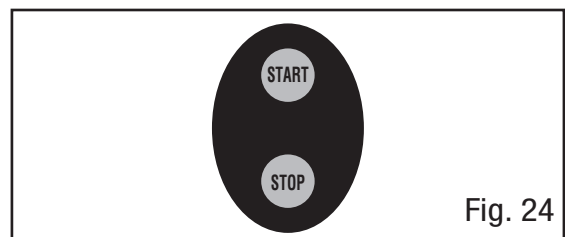

Fig. 24
- b. FOR REMOTE-START: Turn and hold the REMOTE START switch for 5 seconds until the engine start. (Fig. 24)